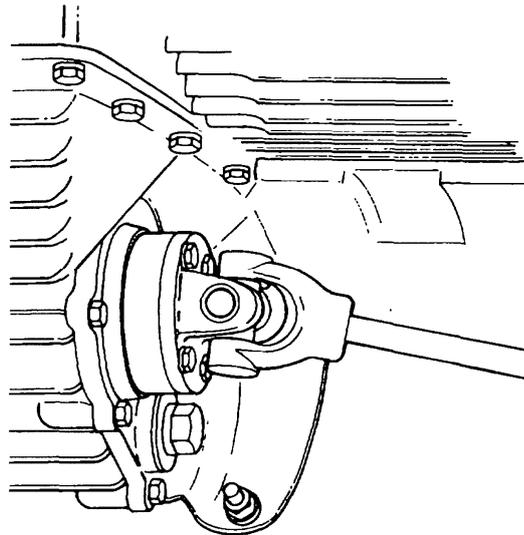

Figure 239 Winch PTO
- b. Fit the flange onto the PTO shaft (Figure 239).